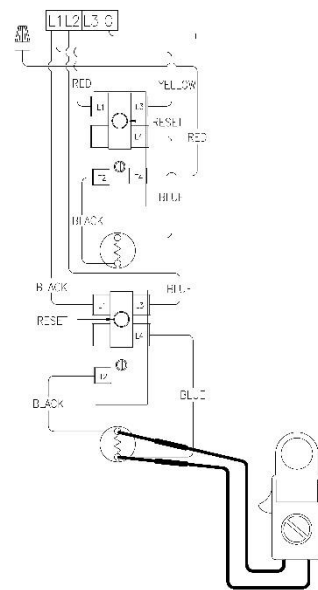

Figure 27
8. Check across lower element terminals (see Figure 27).